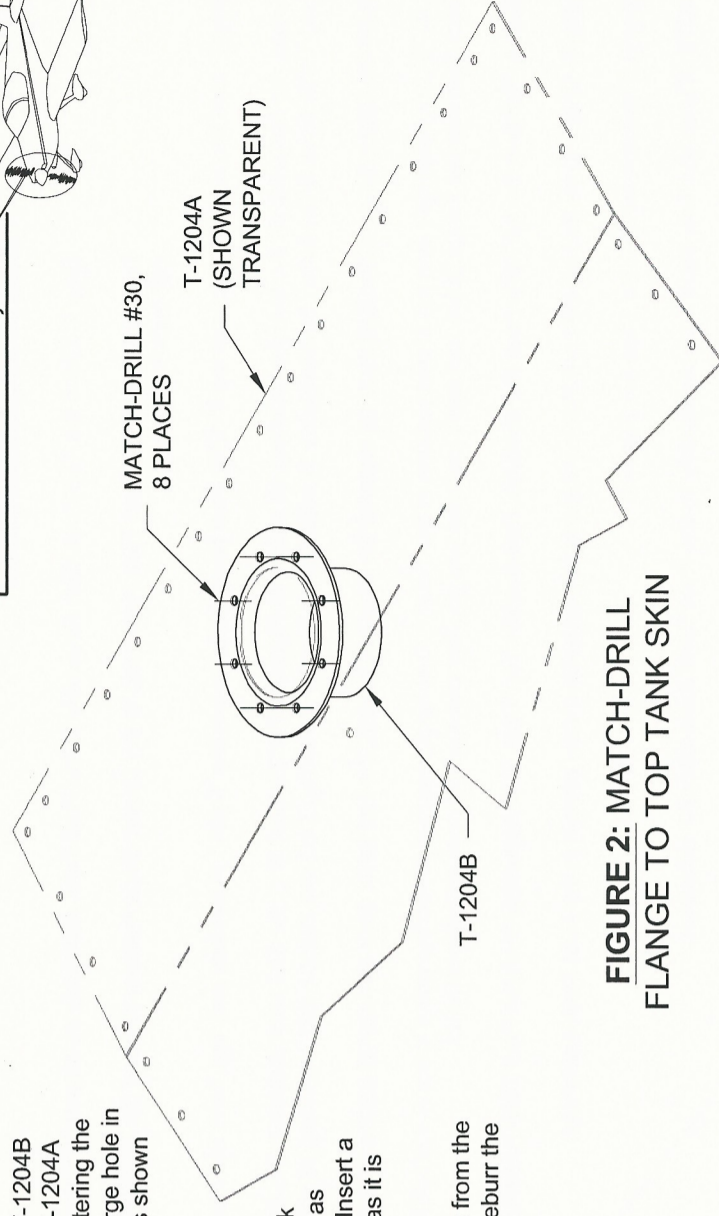

FIGURE 2: MATCH-DRILL FLANGE TO TOP TANK SKIN
Step 9: Place the T-1204B Flange under the T-1204A Top Tank Skin centering the flange under the large hole in the top tank skin as shown in Figure 2.
Match-Drill #30 the holes in the top tank skin into the flange as shown in Figure 2. Insert a cleco in each hole as it is match-drilled.